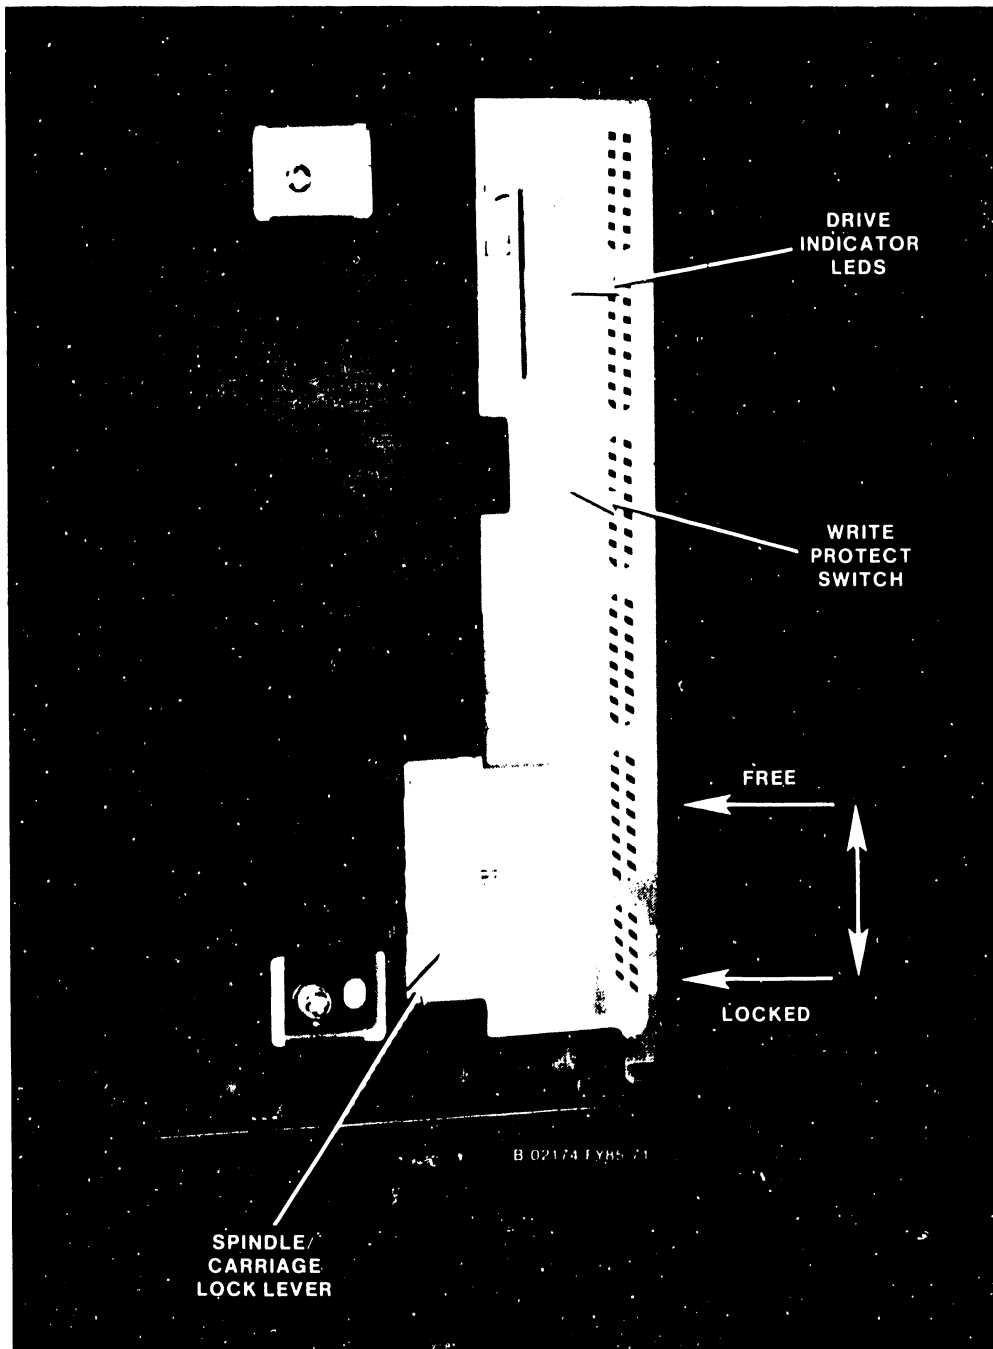

Figure 5-40. 147 Megabyte Disk Drive (Rear View)
13. Unlock the Spindle and Actuator from their shipping positions by moving the red Lock Control Lever on the rear of the drive (figure 5-40) to the right (as seen from the rear), push it up as far as it will go, and then move it to the left into the FREE position.